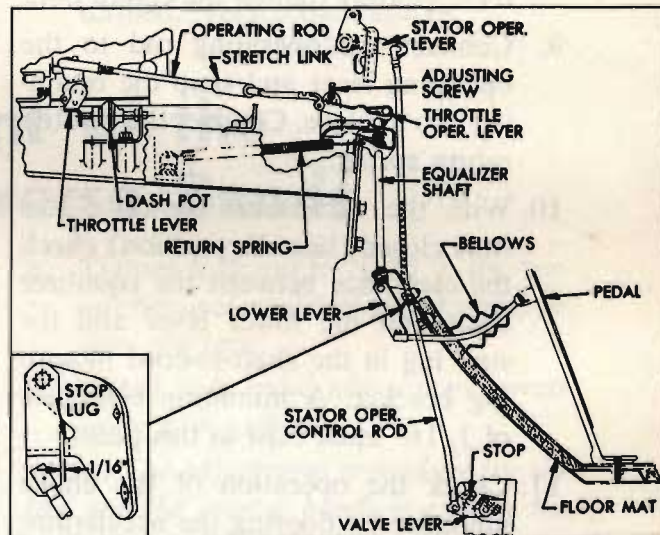

Fig. 6. Throttle and stator control linkage
5. Disconnect the throttle return spring. Disconnect the throttle operating rod from the equalizer shaft lever (Fig. 6).